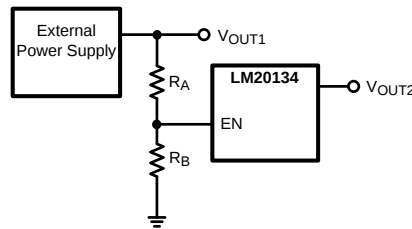

Figure 7. Sequencing LM20134 with Precision Enable
The LM20134 has a built-in under-voltage lockout protection circuit that keeps the device from switching until the input voltage reaches 2.7V (typical). The UVLO threshold has 45 mV of hysteresis that keeps the device from responding to power-on glitches during start up. If desired the turn-on point of the supply can be changed by using the precision enable pin and a resistor divider network connected to V_{IN} as shown in Figure 7 in the design guide.
The precision enable(EN) and power good(PGOOD) pins of the LM20134 can be used to address many sequencing requirements. The turn-on of the LM20134 can be controlled with the precision enable pin by using two external resistors as shown in Figure 7